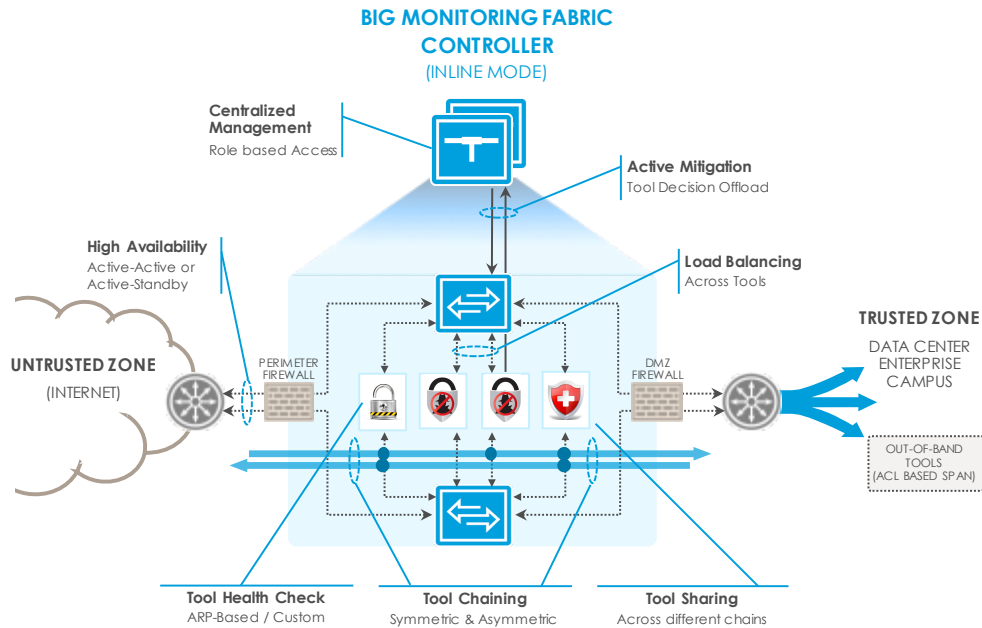

Figure 2: Security Tool Deployment in a DMZ with Big Monitoring Fabric Inline
Big Monitoring Fabric Inline addresses the problems with the traditional approaches by enabling network and security admins to easily deploy and manage multiple inline security or analytics tools in their production network. As shown in Figure 2, these inline/active Big Monitoring Fabric switches are managed by same pair of controllers used for managing the Big Monitoring Fabric (Out of Band).
- **Production Network High Availability:** As shown in the above Figure 2, pair of Big Monitoring Fabric Inline switches (active-active or active-standby) is typically deployed in DMZ where untrusted traffic enters the WAN router, gets inspected through the multiple security tools attached to the Big Monitoring Fabric fabric switches, and then enters the trusted internal network. This provides switch redundancy, link redundancy (inline switch to tool, production switch to inline switch), controller redundancy as well as tool redundancy.
- **Tool Redundancy:** It is also typical for tools in a DMZ to be deployed in pairs for load balancing as well as resiliency requirements. Using Big Monitoring Fabric Inline deployment as shown in Figure 2, a pair of security tools is connected to each of the two Big Monitoring Fabric switches. The tools can be deployed in **Active-Active** or **Active-Standby** mode.